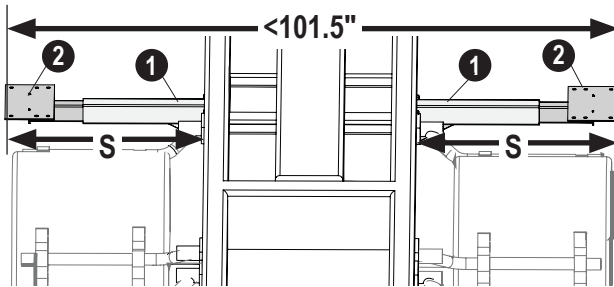

FIG. 160
- Slide an **offset plate (2)** into each **offset base (1)**.
- On the left and right side, adjust **plate (2)** to the measurement "S" calculated in Step 2. Ensure the total distance between the plates does not exceed 101.5 inches, see Figure 160.